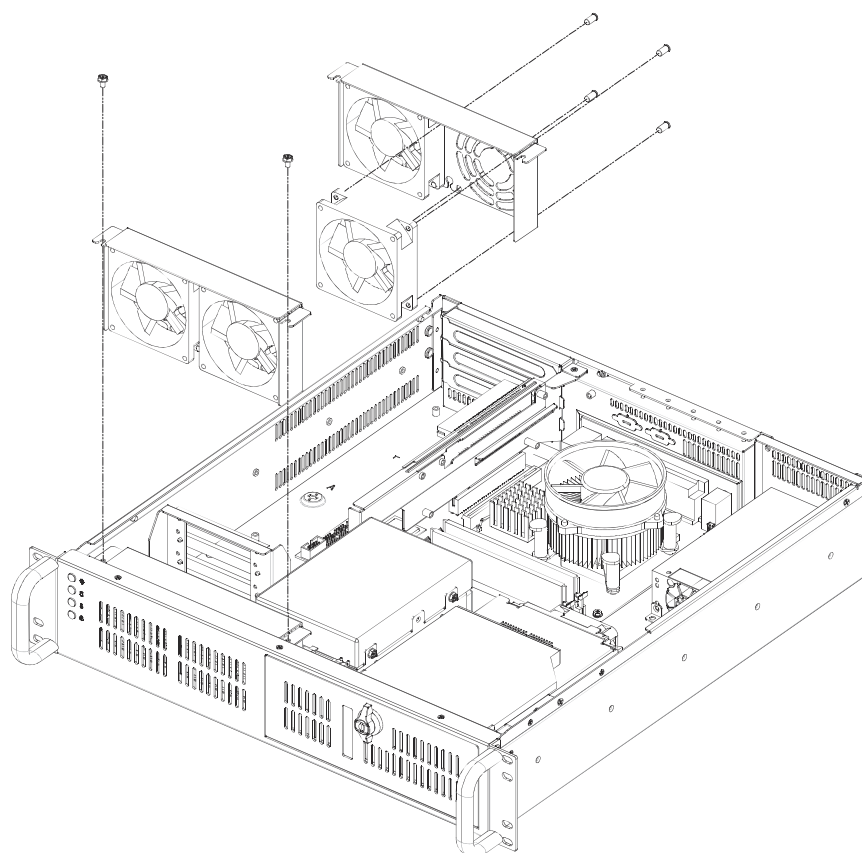

Figure 3.5 Replacing the system fan
3. Loosen the two screws on the fan bracket and gently pull it out. (see Figure 3.5)